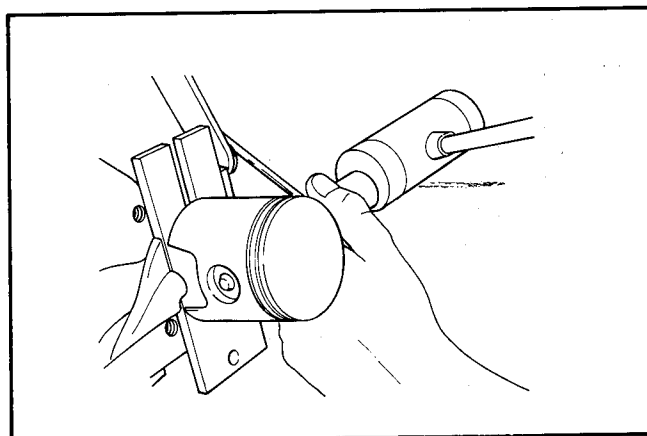

Figure 49 – Piston Pin Removal
i. See Figure 49. Remove both piston pin retaining rings using pliers. Heat the piston pin bosses and remove the pin by drifting it out using the PISTON PIN TOOL, Part No. 96777-72.